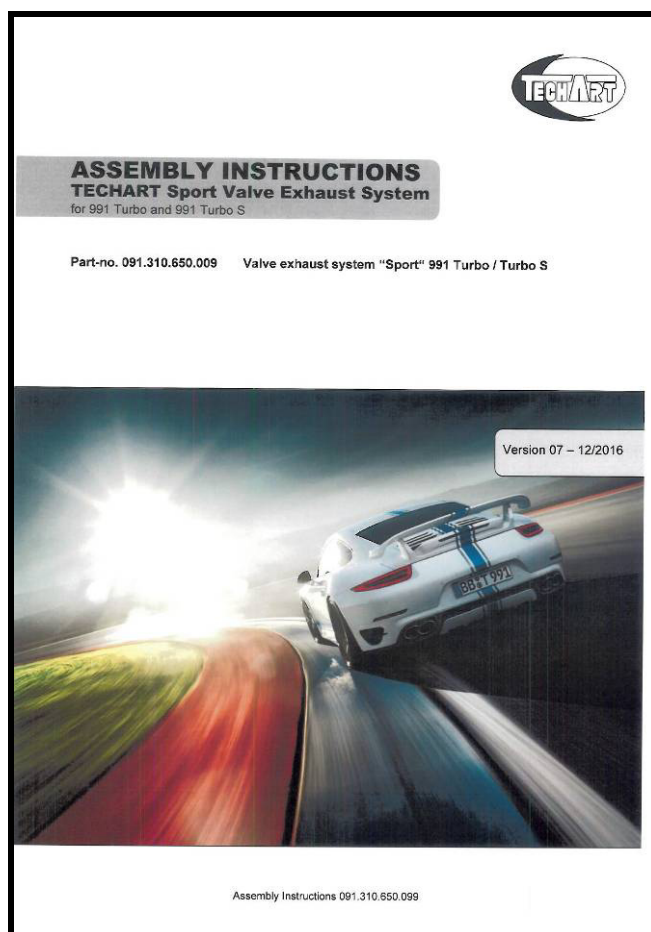

Fig. 08
- 9 Pre-assemble and install TECHART exhaust system according to the separate assembly instructions. See fig. 08 (pictures shows exemplary the assembly instructions for the TECHART valve exhaust system 091.310.650.099)